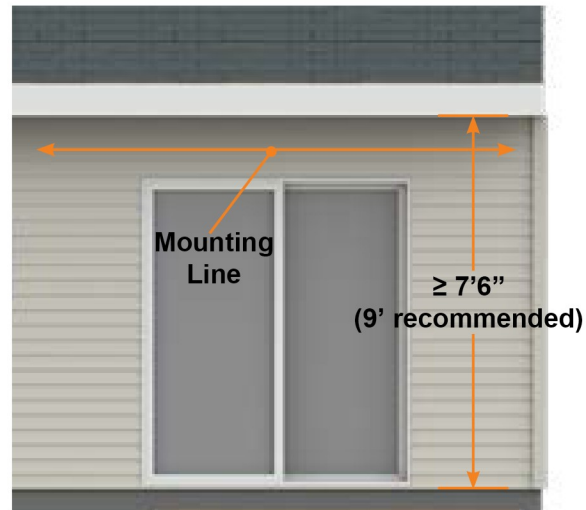
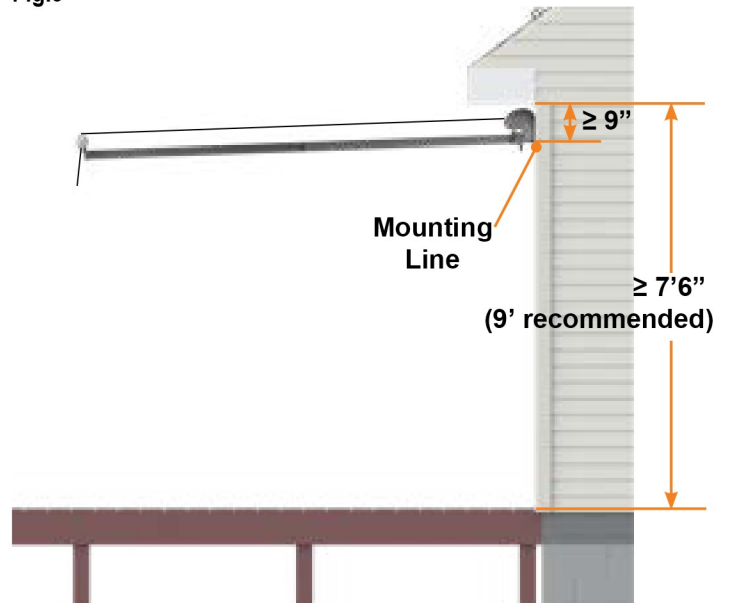

Fig.9
Fig.10
• Measure the height from ground/deck to the top of wall/ surface intended for installation. There must be at least 7’6” from the ground/deck of the intended install surface to the top to allow for headroom under the awning, however, 9’ is recommended for comfort and better pitch performance. (Fig. 9)(Fig. 10).